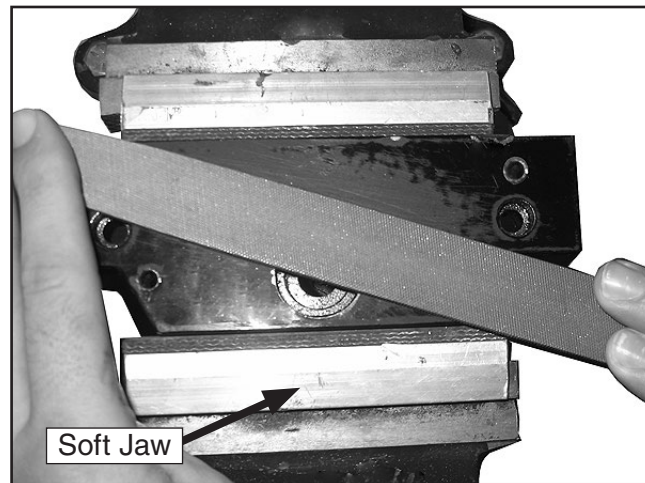

Figure 11. End plate surface preparation.
15. Using soft jaws, secure the end plate in a vise with the painted surface facing up (**Figure 11**).